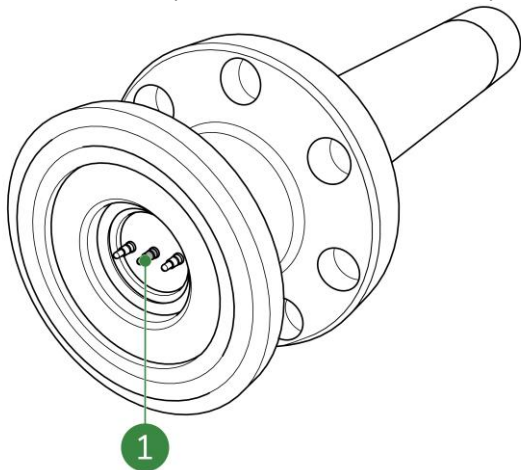

Figure 8-7: Sensor contact pins
- gently press on each connection pin (Figure 8-7, pos. 1);